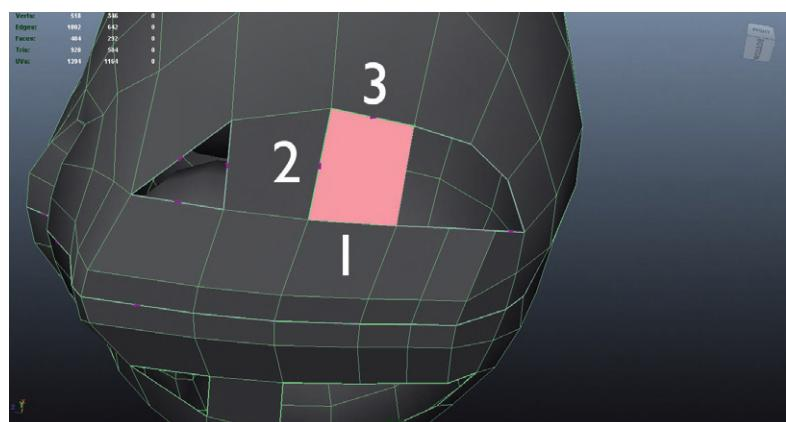

FIG. 4.44 Using the Append to Polygon Tool to fill in the gaps.
Step 62: Use Append to Polygon to close off the gaps between the new chin strap of polygons and the bottom of the head. To do this, in Object Mode, select the alien's head. Then choose Polygons>Edit Mesh > Append to Polygon Tool. To use the tool, click on any of the edges that are open. Little purple arrows will appear to show the direction of the new polygon that will be built. Click on each of these in turn (Fig. 4.44) and watch the polygon fill in. Hit Enter when the polygon is created. Seal up all the bottom of the head in this way.